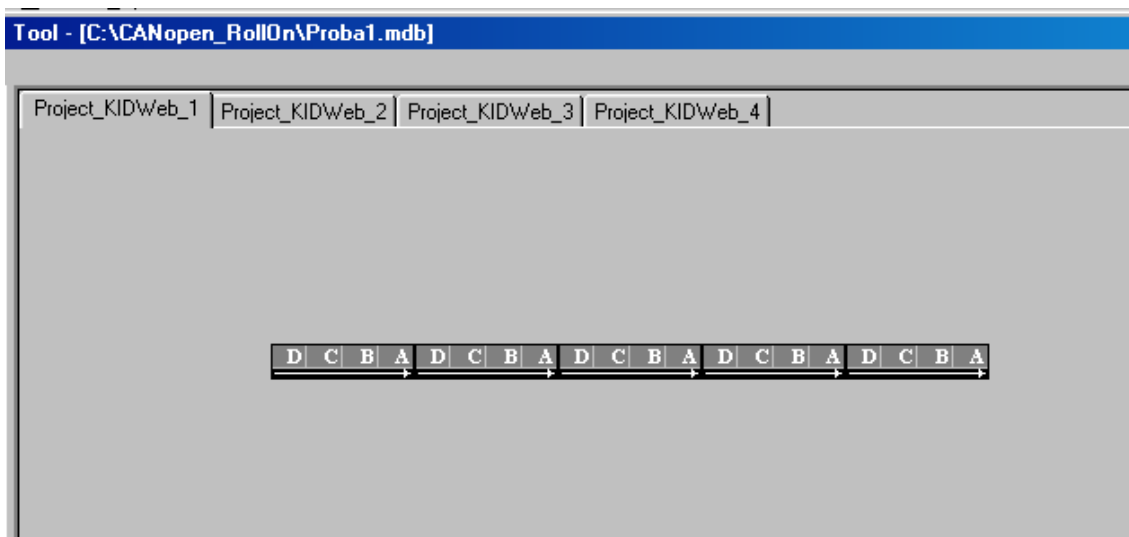

Fig. 4.12
- Click OK button – the image of the five modules appears – Fig. 4.12.